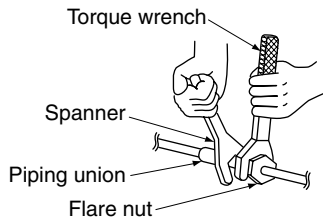

Fig. 16
- Be sure to use both a spanner and torque wrench together, when connecting or disconnecting pipes to/from the unit. (Refer to Fig. 16)